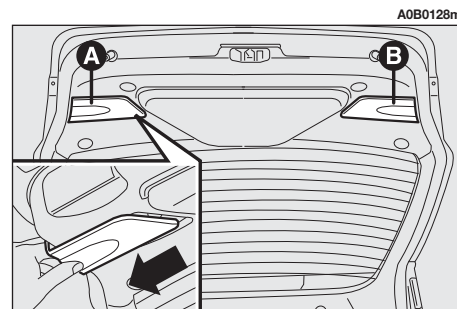

fig. 48
- Remove the cover (A or B-fig. 48) in correspondence with the light concerned, withdrawing it at the side.
— Refit the lid (**A** or **B**-**fig. 48**) inserting it from outside until it fits in.